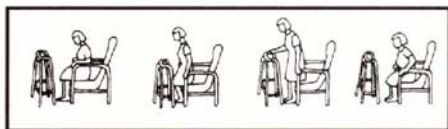

FIG 5
4. Place hands gently on the chair arms, bend slightly forward and sit down gently (Fig 5).